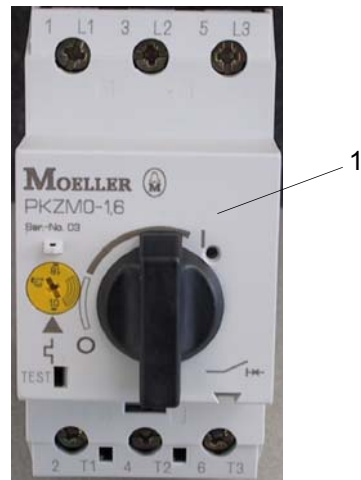

Fig. 3.2
- Once the cause has been eliminated, the motor protective relay can be reset by turning the knob -1- to position I, - Fig. 3.2 -.